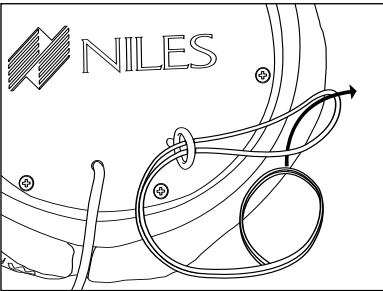

Figure 9 Security Cable Looping Through
3. Feed the opposite end of the nylon security cable through the exposed portion of the cable that was just fed through the security eyelet, as shown in **Figure 9** and **10**.